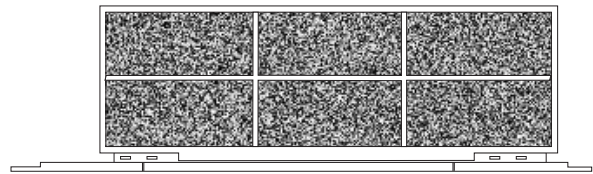
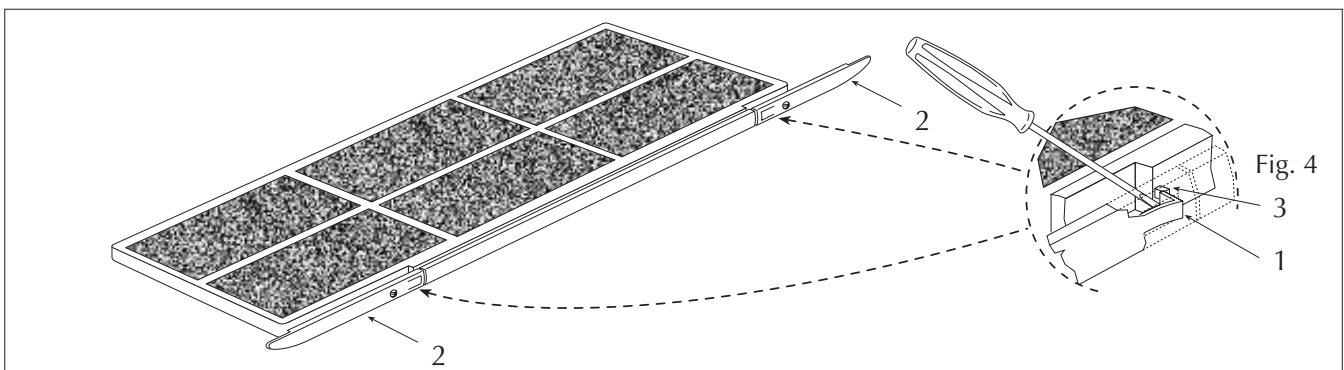

Fig. 3
Fig. 4
- remove the coil cover sheet (4) by removing the screws;
- remove the screws securing the coil (5), then remove it;
- remove the push-outs (6) on the right side;
- rotate the coil (5), then secure it in the new position with the screws previously removed;
- remount the coil cover sheet (4) and secure it with screws, then insert the plastic plugs (7) supplied in the openings left free by the hydraulic connections;
- all trays are designed to collect condensate on both sides. In the case of vertical installation, for condensate drainage on the right side, position the drainage union to the right (8).
- to move condensate drainage to the right of the unit, reverse discharge of the tray (3) (if present), then transfer the drainage line (8) to the right;
- slide out the electrical connections from the right side, remove the push-out, then transfer the cable guide (9) from the right to the left side;
- transfer the electrical connections to the left side through the cable guide (9);
- move the terminal block (10) and the ground jumper connection (11) to the left side of the unit;
- modify the air filter to the new configuration by changing the position of the external support in relation to the filter frame (Fig. 3); press down on the tab (1 Fig. 4) with a screwdriver while moving the external support (2) until the tab is over the tooth (3). Release the tab when the position between the support and the filter is as shown in Fig. 3.